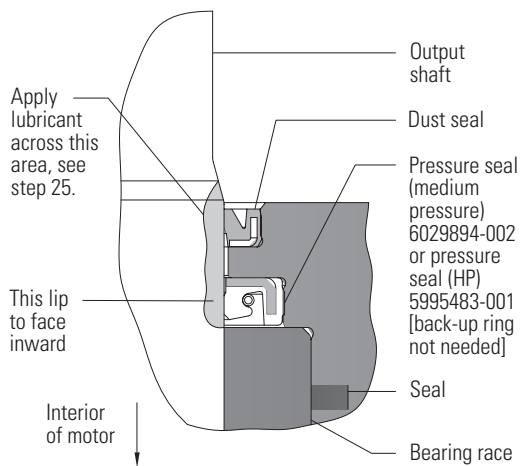

Figure 15 (version -012)
Note: With use of Pressure Seal (Medium Pressure) 6029894-002 or Pressure seal (HP) 5995483-001, Back-up ring does not need to be installed, see Figure 15 (Version-012).